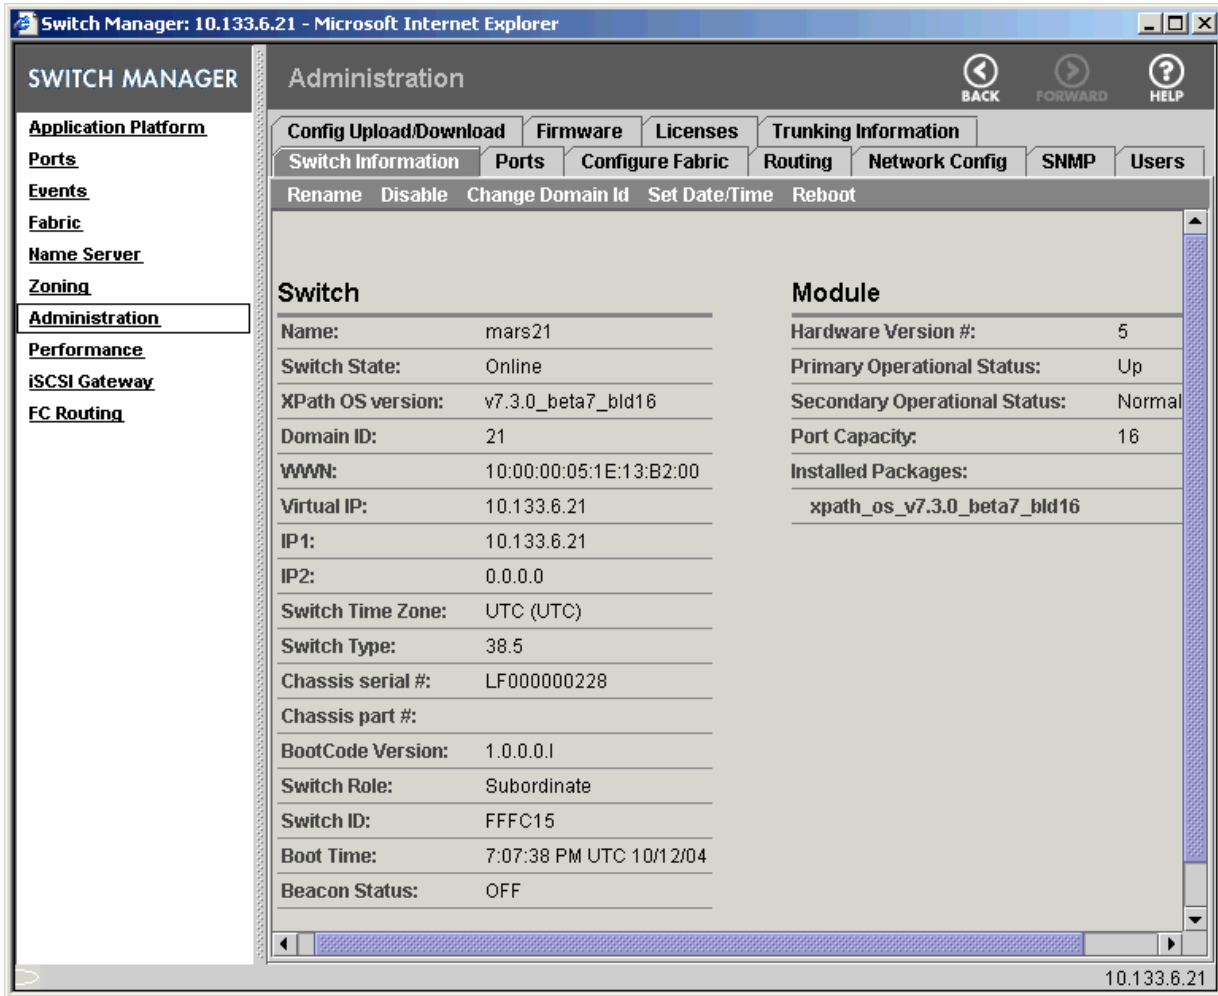

Figure 8 Administration page with the Switch Information tab selected
3. Click the **Switch Information** tab (see Figure 8).